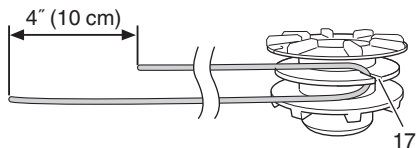

Fig. 22
- (2) After removing the case, take out the reel and discard the remaining line.
- (3) Fold the new nylon line unevenly (approx. 10 cm) in half as shown in picture. Hook the U-shaped end of the nylon line into the groove (17) on the center partition of the reel. Wind both halves of the line on the reel in the same direction, keeping each half of the line on its own side of the partition. (Fig. 22)